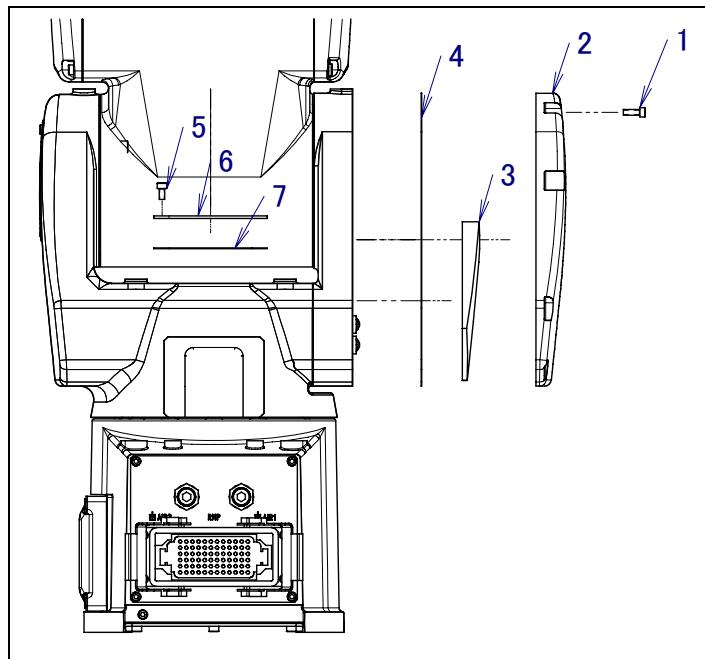

Fig.5.3.1 (a) Remove the J2 base cover
- 5 Remove bolt (5) and cover U (6). When packing is attached, remove packing (7), too.
- 6 If necessary, remove cover B. (See Fig.5.3.1(c))